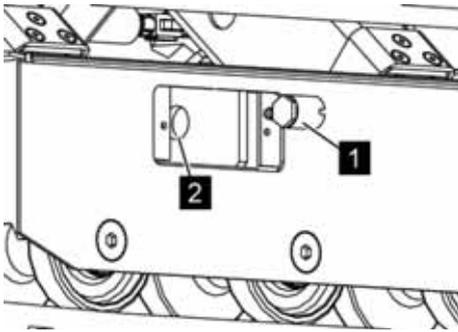

Fig. 131: Pulling out the slide coupling
8. ▶ Turn the slide coupling (Fig. 131/1) back by 180° anti-clockwise and pull it out of the grease tension cylinder (Fig. 131/2).